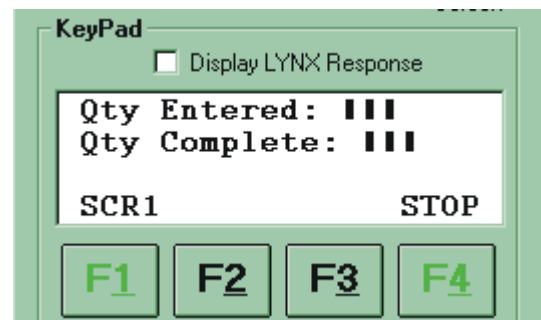

Figure 4.26: Screen 2 Setup
- 2] Enter the text into the display window as shown in figure 4.26.
- 3] Insert the Quantity register as shown in figure 4.26. The Qty Complete register has not been created yet.